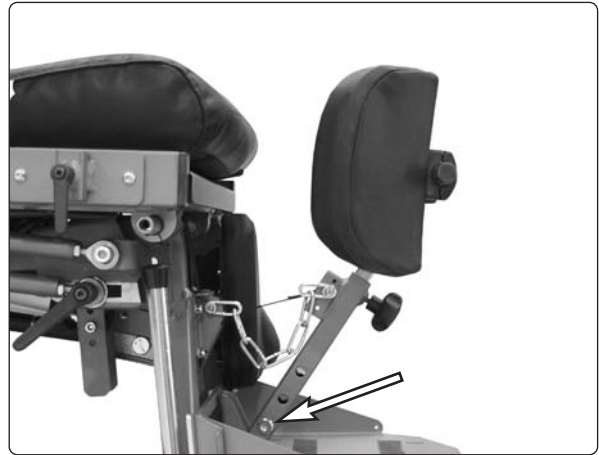

Fig. 94. The knee stops retaining screw.
2. Remove the knee stops by unscrewing and removing its retaining screws, see Fig. 94.